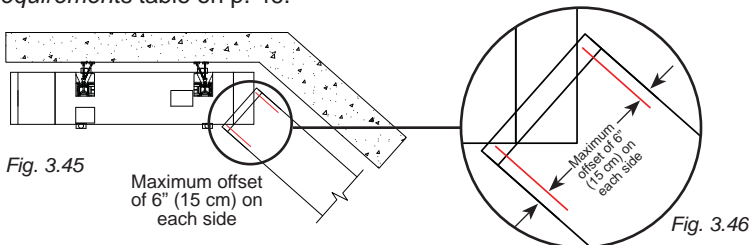

Fig. 3.45
Angled setups can be achieved by installing a bearing bridge structure at an angle between two M2 Series motorized units (fig. 3.45).
- 1- Follow steps 1 through 8 of the instructions for the installation of a bearing bridge setup on p. 37, making sure to install the second motorized unit in such a way that the angled bearing bridge will not be offset by more than 6" (15 cm) at both ends (fig. 3.45).